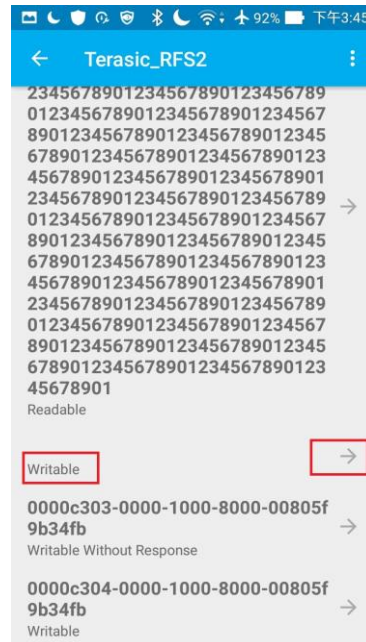

Figure 3-10 Open the Bluetooth debugging app
- When the app is connected to the RFS2 board through Bluetooth, find the “Writable” site and press the “→” to enter the write function (See Figure 3-10).